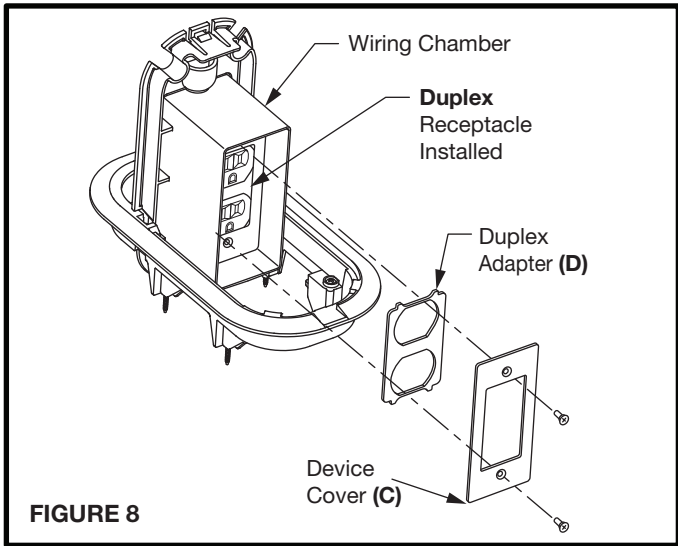
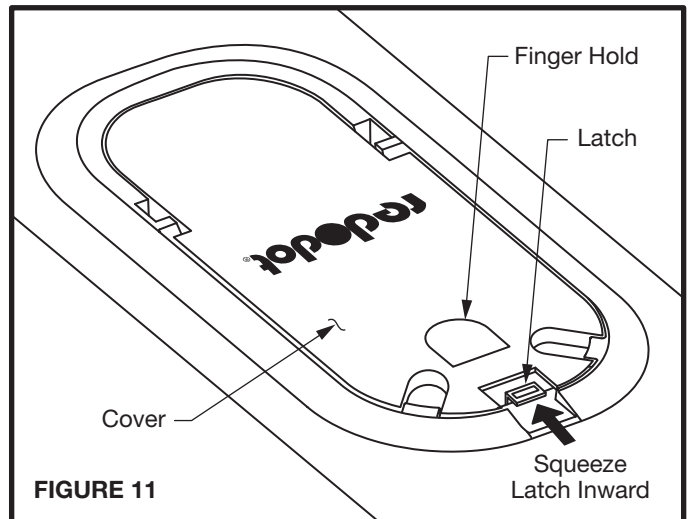

FIGURE 8
FIGURE 11
- 3.1 Open Deck Grommet™ Pro's Cover by squeezing the Latch inward (see Figure 8) and simultaneously pulling using the Finger Hold and pivot open (see Figure 11).